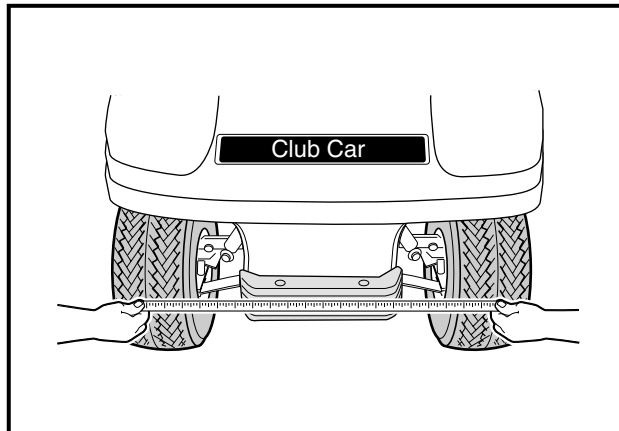

Figure 7-18 Check Toe-In
- Measure the distance between the marks on the rear-facing surfaces of the tires, and then roll the vehicle **forward** one and one-half wheel revolutions until the marks appear on the forward facing surfaces of the tires at about the same height from the floor (**Figure 7-18, Page 7-16**).